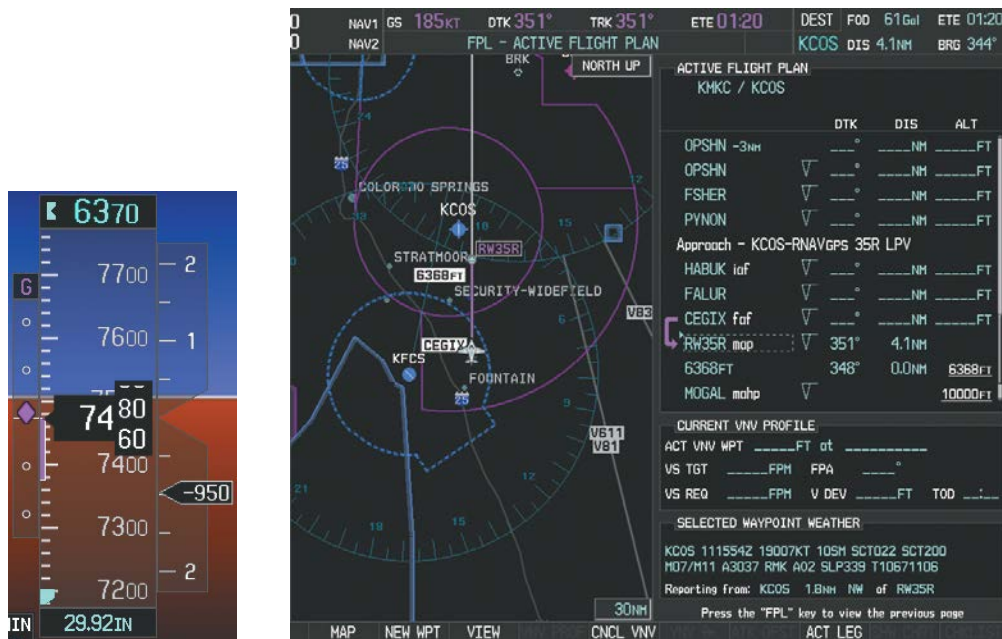

Figure 5-149 Descending to the Missed Approach Point
- 24) After crossing CEGIX, the aircraft continues following the glidepath to maintain the descent to "AT or ABOVE" 6,370 feet at the Missed Approach Point (MAP) (RW35R) as seen in Figure 5-149.